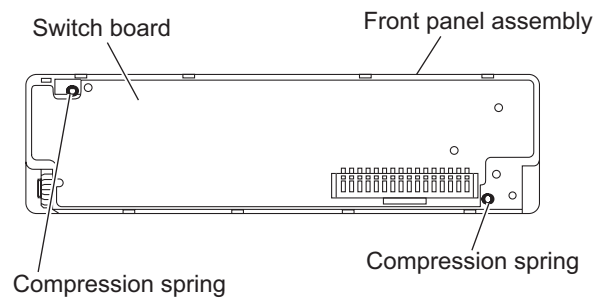

Fig.14
- Take out the switch board while lifting the switch board from the front panel assembly little by little. (See Fig.14.)
Do not lose the compression springs when removing the switch board. (See Fig.14.)